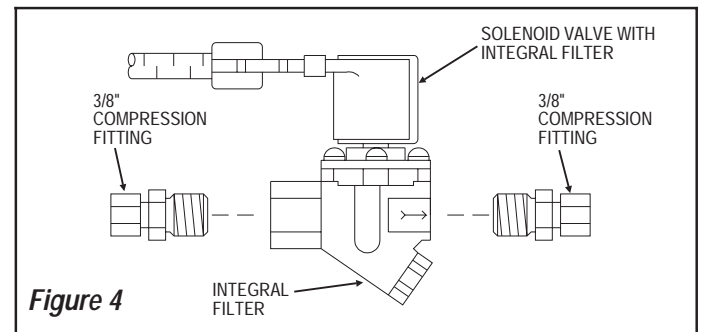

Figure 4
### Step 3 — Install Solenoid Valve (Figures 4 and 5)
**Important:** DO NOT install solenoid valve so that the solenoid coil is facing down. The solenoid valve may be oriented so that the solenoid coil faces sideways (vertically); however, optimum performance is obtained when solenoid valve is in the horizontal position with the solenoid coil facing up as shown in Figure 4.